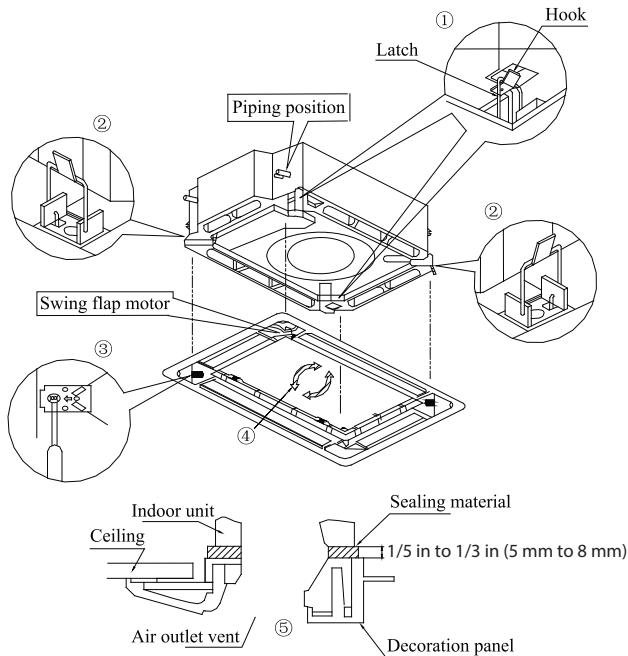

Fig. 15 — Panel Installation
1. Set the panel to the indoor unit body by matching the position of the panel's swing flap motor to the panel's piping position to the indoor unit's piping position (see Fig. 15).
- (4.) Adjust the panel by turning it toward the direction pointed by the arrow (see Fig. 15) so the adjust board connects well to the ceiling.